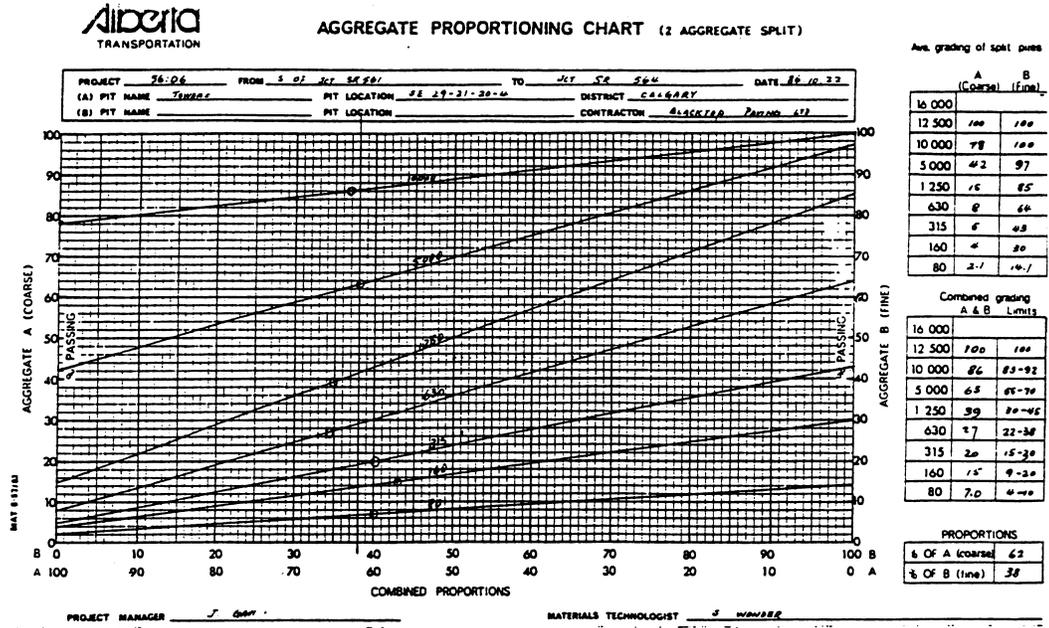

FIGURE 6
4. Plot the combined grading for each sieve along each respective sieve line as shown in Figure 6.